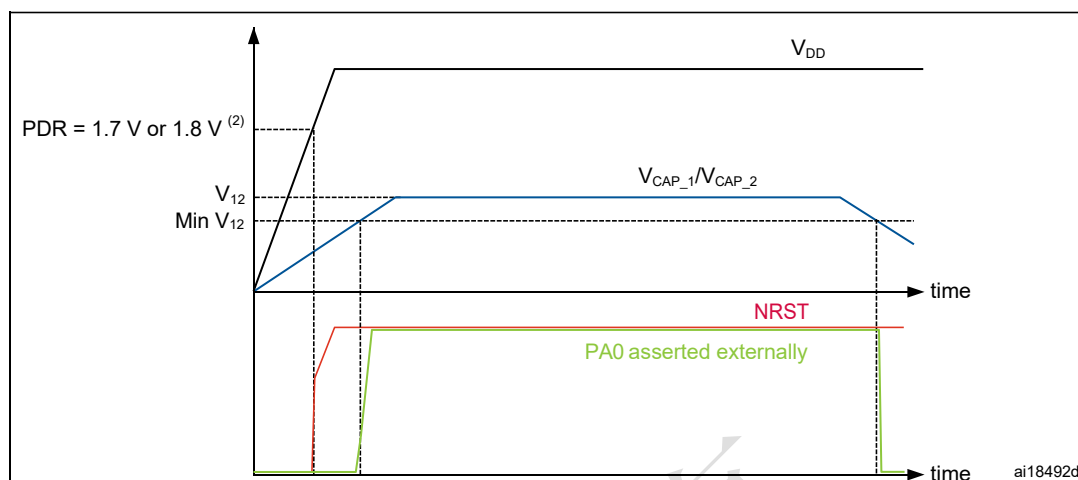

Figure 11. Startup in regulator OFF mode: fast VDD slope- power-down reset risen before VCAP_1/VCAP_2 stabilization
- Otherwise, if the time for VCAP_1 and VCAP_2 to reach V12 minimum value is slower than the time for VDD to reach 1.8 V, then PA0 could be asserted low externally (see Figure 11).